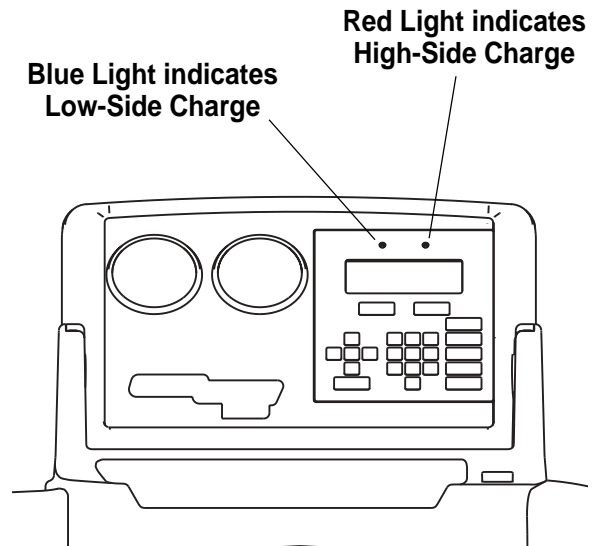

Figure 7
- The blue light on the control panel indicates a low-side charge; the red light indicates a high-side charge. See Figure 7.